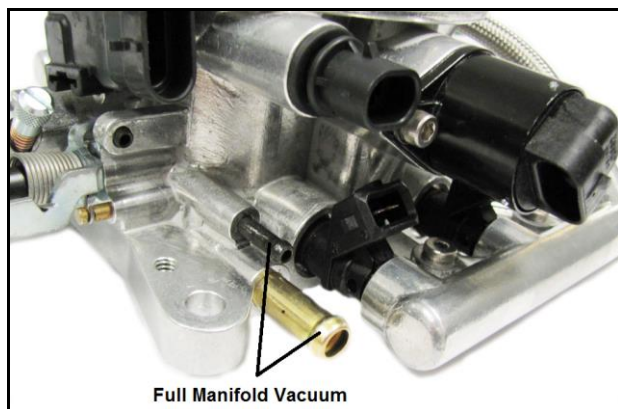

Figure 4
- Connect the vacuum lines that were previously disconnected. **Figures 4 & 5** show the function of the ports in the TERMINATOR™ throttle body.